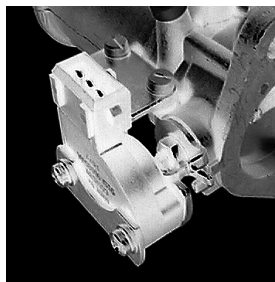

Fig.4
4. Fit the TPS using the two M4 mounting screws and cover plate as shown Fig.4. Ensure that the sensor lever sits within the fork of the throttle lever and that the sensor is seated fully into the mounting bracket.